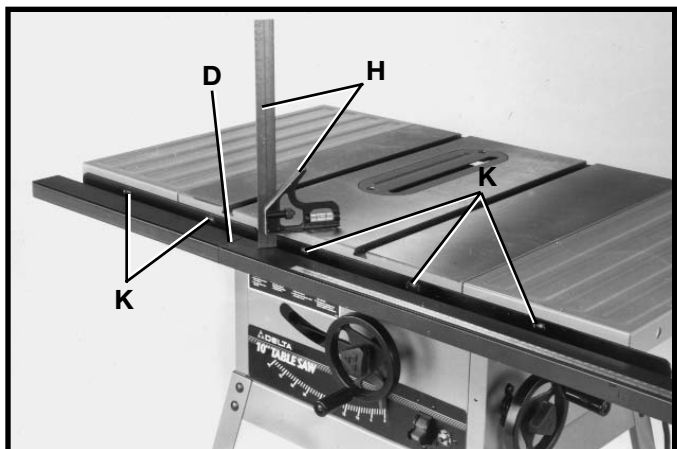

Fig. 25
4. Using a square (H) Fig. 25 set at $\frac{13}{16}$ " , place the square on the saw table and against the top of guide rail (D). Align the guide rail until it is parallel to the saw table by loosening and tightening mounting hardware at five positions (K) Fig. 25.